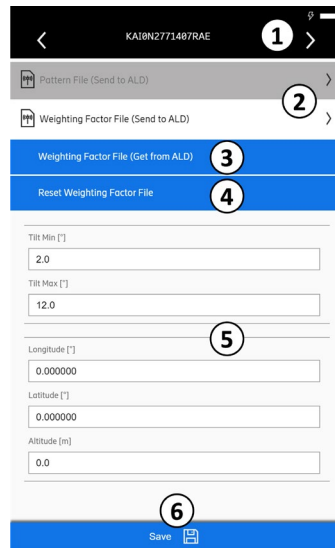

Fig. 82: Devices: Changing the RAE subunit
① Shows the subunit properties The values of the following fields are shown and cannot be changed:
② Opens the settings of the subunit, see Fig 82.
Tap ③ in Fig. 82. The following page is shown:
- ① Opens the USB-Stick / PC to let you import a file to the ALC 2 select a file ③ send it to the RAE
- ② Select a file
- ③ Send it to the RAE
Tap ② in Fig. 82. The following page is shown:
Tap ① in Fig. 82. The following page is shown: